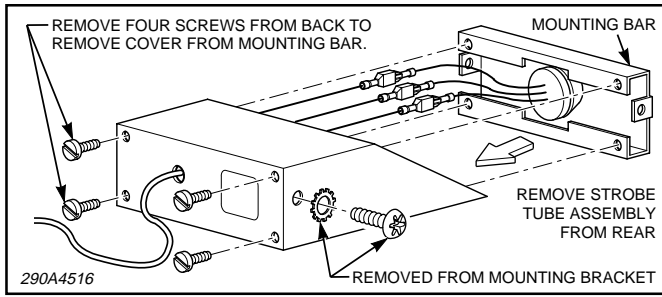

Figure 5.
c. See figure 5. Remove and retain the screws which secure the back cover to the mounting bar.